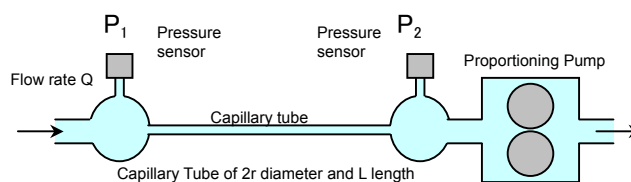

Figure 7 Principle of Capillary Viscometer
When the laminar flow of liquid flows through a cylindrical capillary tube, as shown in Figure 7, where symbol  $Q$  stands for the volume of flow per unit time (flow rate),  $2r$  for the diameter,  $L$  for the length of the capillary tube,  $P_1$  and  $P_2$  for the pressures at the both ends of the capillary tube, and the pressure differential  $P_1 - P_2$  is  $\Delta P$ , the flow rate  $Q$  is directly proportional to the pressure gradient  $\Delta P/L$ . This phenomenon is called **Poiseuille's law** and represented by the equation (13).
Therefore, with a capillary viscometer that has a structure shown in Figure 7, the viscosity  $\eta$  can be obtained by measuring the flow rate  $Q$  of the fluid flowing through the capillary tube and the pressure differential  $\Delta P$  between both ends of the capillary tube. This measurement method is based on the laws of physics; therefore, the viscosity according to the definition of viscosity can be obtained. This is called the absolute measurement method of viscosity.